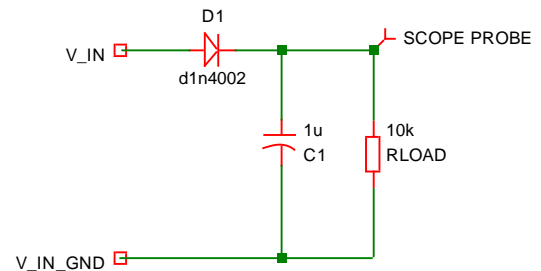

Fig. 2: Half-wave rectifier with 1 uF smoothing capacitor.
- Step 2a: Fig. 2 shows the circuit for testing.